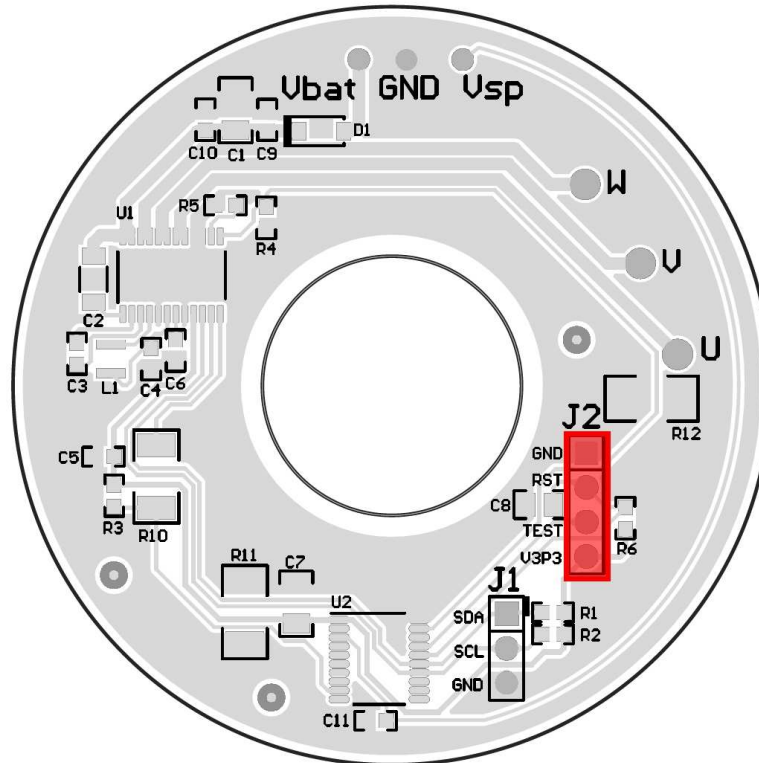

Figure 5. Hardware Setup for JTAG Interface and Communication With MSP430 MCU
It is also recommended to use a JTAG emulator like the one found through the MSP430 LaunchPad™ Value Line Development Kit (MSP-EXP430G2) to interact with the MSP430G2553. See Figure 5 for more information when connecting to the system using the JTAG interface. For pins 1 through 4 of J2, see the GND, RESET, TEST, and V3P3 required for the JTAG interface. For more information about I²C and the JTAG interface, see Section 3.1.2.
2. Connect the LaunchPad programmer to the TIDA-01496 board, as shown in Figure 5.